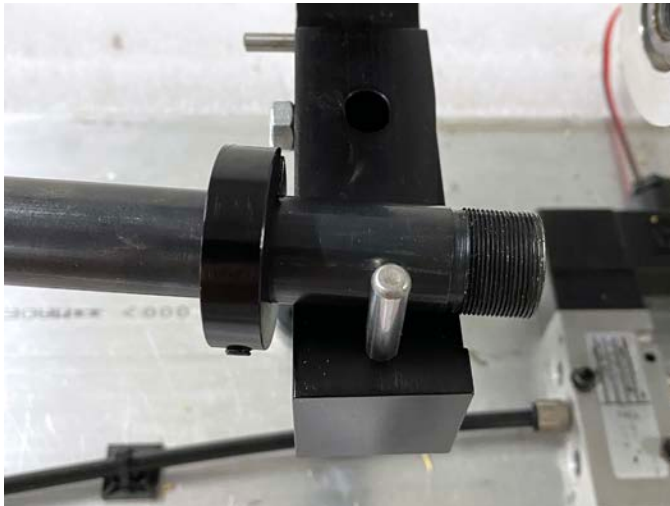

FIGURE 43
16. Open the top clamp and pull the bar feeder tube over against the stop pin (P/N 35630). Then remove the nose cap (see Figure 43).